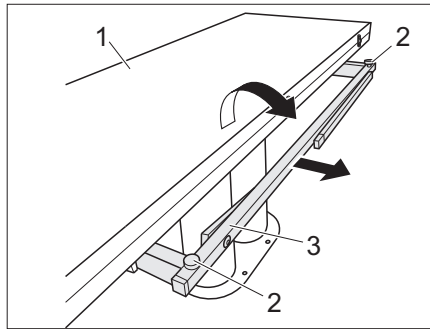

Fig. 107 Increasing the table size
- Pull out the table base (Fig. 107,3).
- Fold out the table half (Fig. 107,1).
- Use the two adjusting screws (Fig. 107,2) to adjust the table-top to the desired height.